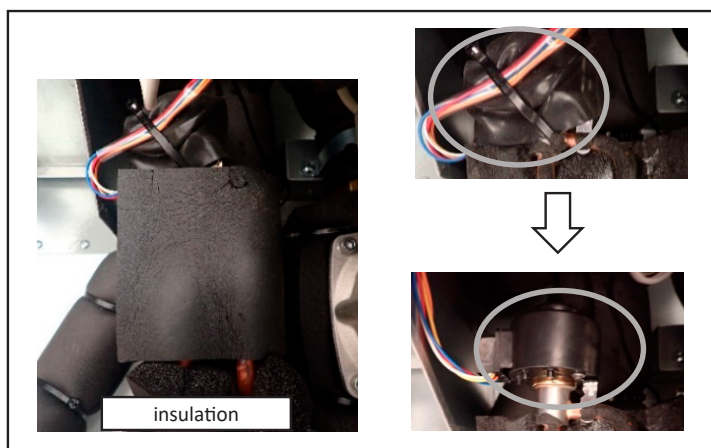

Fig17.Removing insulation and electronic expansion valve coil
(6) Electronic expansion valve
- (b) Remove the coil cover and the electronic expansion valve coil.(○ mark, Fig.17)